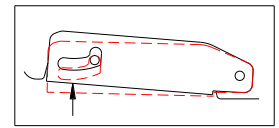

Fig. 5
- > Depress the lock mechanism. It should move downward easily and spring back to its original position without binding or sticking (Fig. 5).